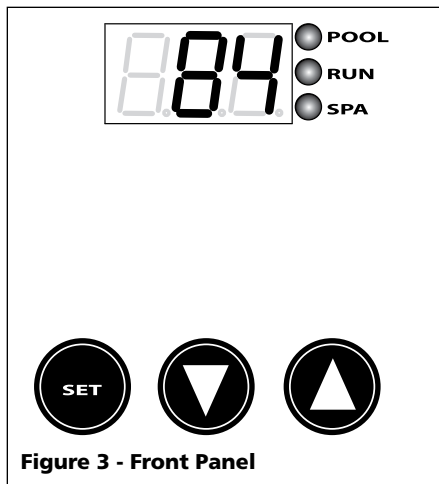

Figure 3 - Front Panel
- The control located on the front of your heat pump has a large three-character display for the water temperature, set points, and diagnostics (see figure 3 for front panel appearance). The three button keypad includes SET, UP arrow, and DOWN arrow buttons. LED indicators next to the display show if the heat pump is in the pool mode or in the spa mode and if the unit is running.